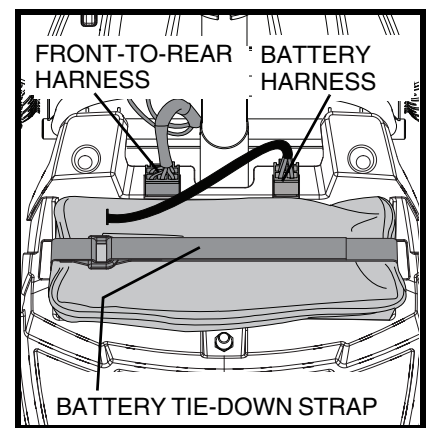

Figure 24. Harness Connections
5. Disconnect the battery harness. See **figure 24**.
6. Disconnect the front-to-rear harness. See **figure 24**.